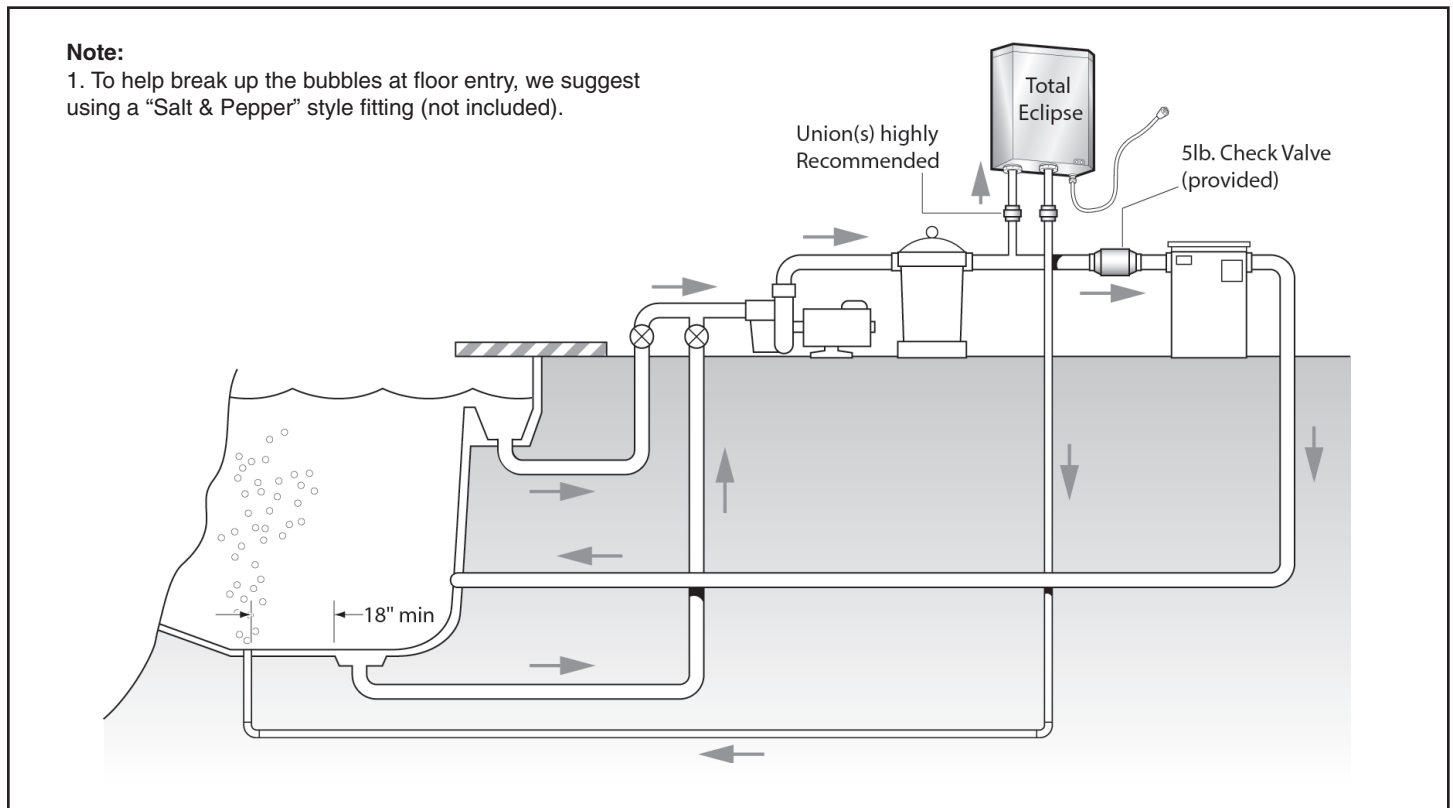

Figure 1: New Pool
- A pressure wire connector is provided on the outside of the unit to permit connection to a minimum No. 8 AWG (8.4 mm²) solid bonding conductor between this point and any grounded metal equipment, grounded metal enclosures of electrical equipment, metal water pipes, or conduit within five (5) feet (1.5m) of the unit as needed to comply with local requirements.
- Install at least 5 feet (1.5 meters) from wall of pool water using nonmetallic tubing. It is highly recommended that the ozone generator be installed at least one (1) foot above the water level to prevent water from contacting electrical equipment. Install in accordance with the installation instructions.
- The Total Eclipse™ must be installed in an outdoor location, or indoors in a forced air ventilated room, and installed so that the orientation is exactly as shown in Figure 1. Install to provide water drainage of generator to protect electrical components.
3. Install 3/4" PVC piping for circulation of pool water, as shown in Figure 1.
- b. Plumb the Water Return out of the Total Eclipse as a dedicated line to the bottom of the pool as shown in Figure 1.